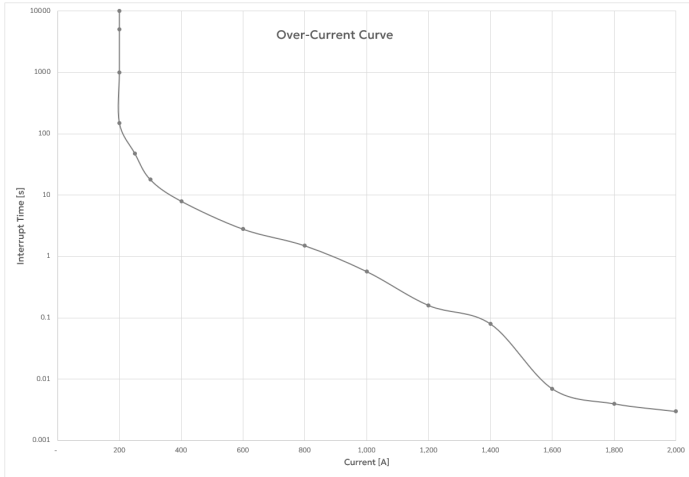

Figure 3. Breaker Protection Time Curve
- (c) For time versus current interrupt details, refer to Figure 3. Breaker Protection Time Curve.